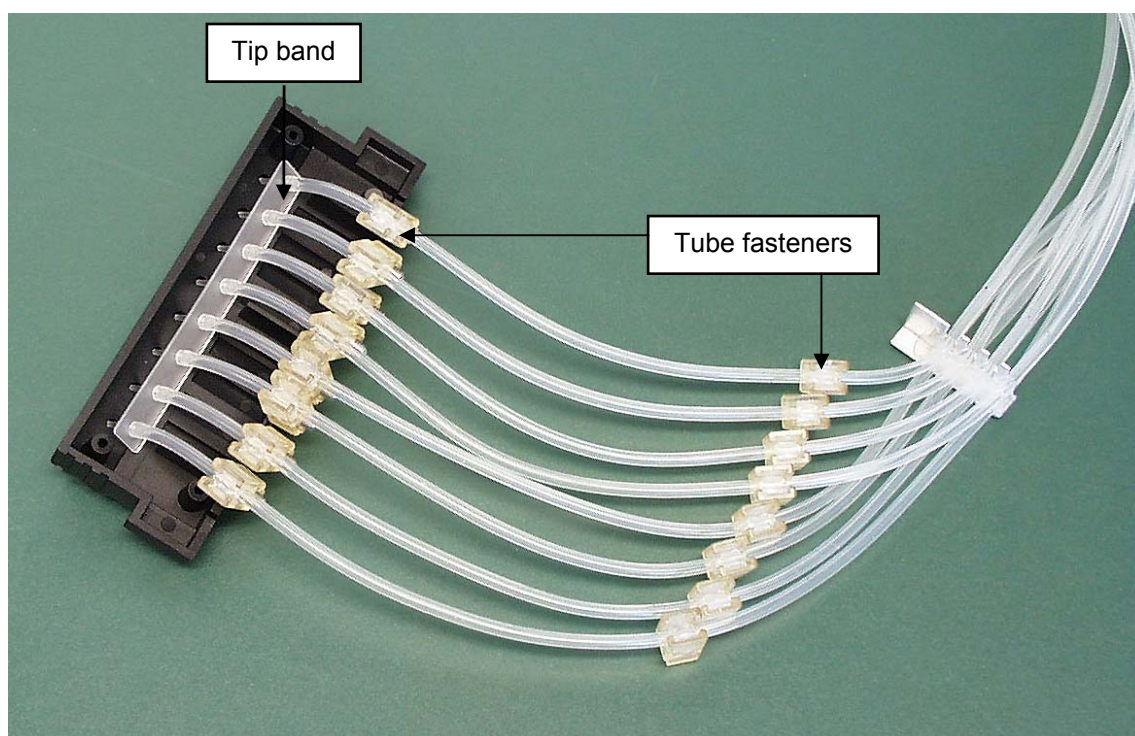
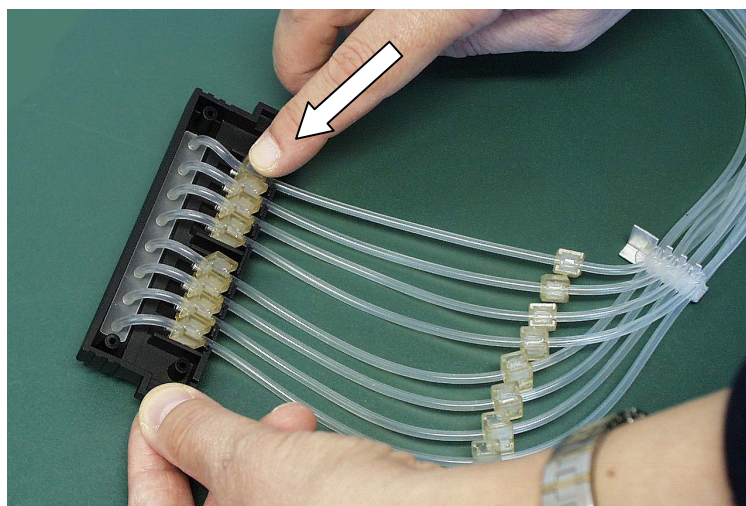
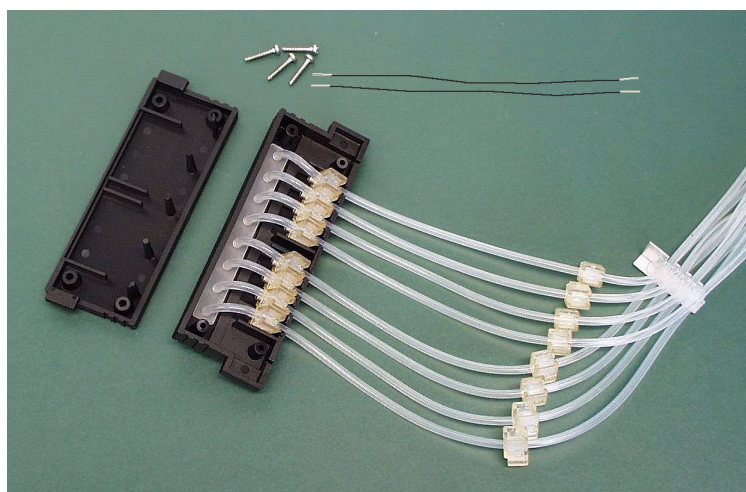

Fig. 7.16 Inserting the tip manifold into the lower part of the dispensing cassette
Fig. 7.17 Pressing the tube fasteners into place
Fig. 7.18 New tubing inserted into the lower part of the dispensing cassette
3. Insert the tip manifold so that the tips go through the holes in the lower part of the dispensing cassette (Fig. 7.16) and guide the tubes through the eight openings in the side wall by pressing the small cubic tube fasteners into place (Fig. 7.17). Ensure that each tube is in its designated opening (Fig. 7.18).